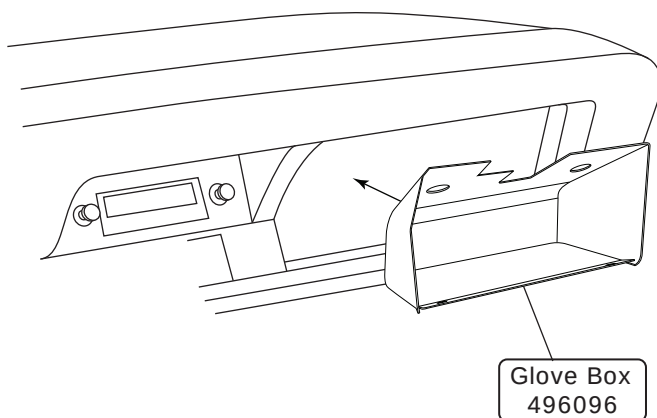

Figure 1
5. Install the glove box into the glove box compartment using the OEM screws (See Figure 1, below).